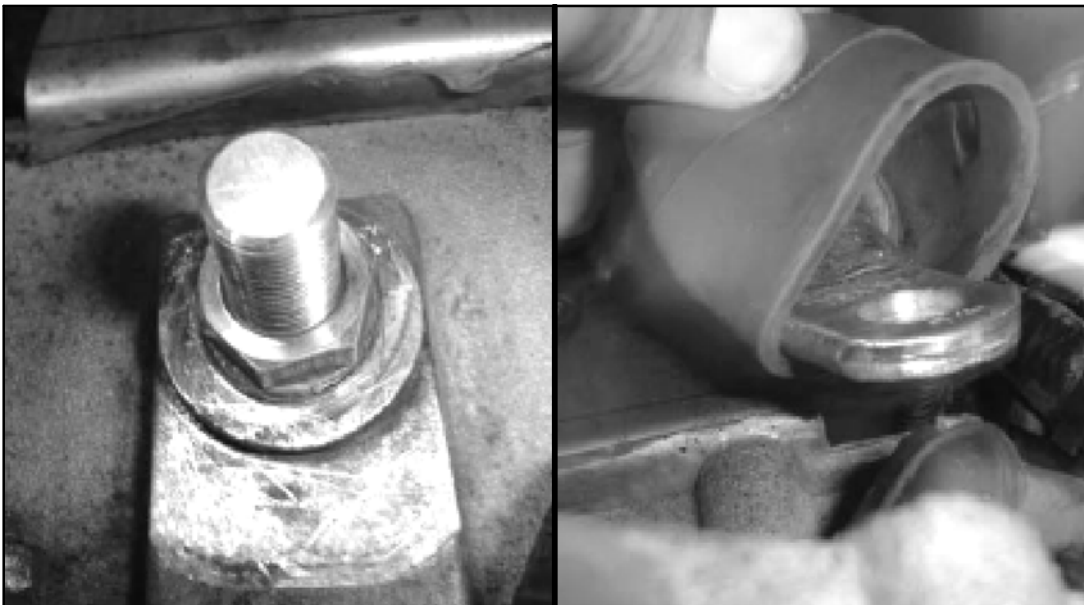

Figure 4. Reference photos of cleaned B+ stud, stud base and cable terminal.
9. Using a clean cloth, wipe away the dirt and grease from the cable terminal, the B+ stud and around the B+ stud base (refer to Figure 4).